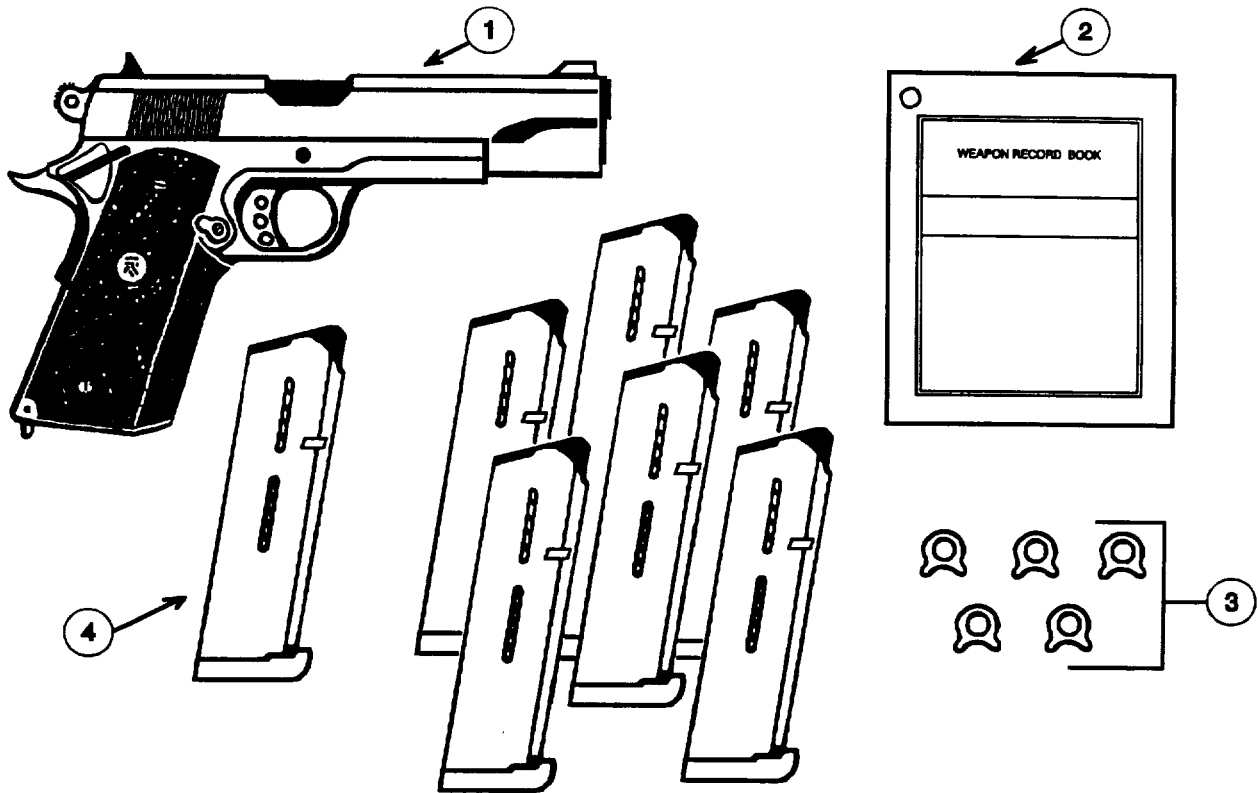

Figure 2-5. The MEU(SOC) .45 Caliber Pistol Weapon System
2-5. ASSOCIATED EQUIPMENT. The MEU(SOC) .45 Caliber Pistol Weapon System, Figure 2-5, is comprised of the one pistol (1), one weapon record book (2), five shok-buffs (3), and seven magazines (4).